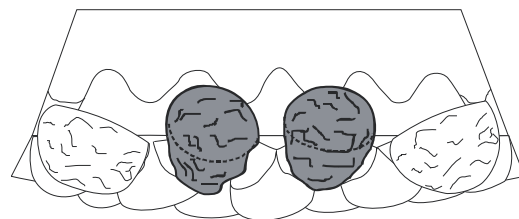
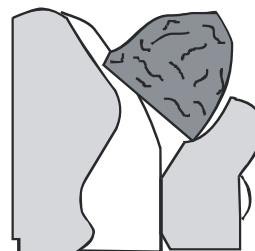
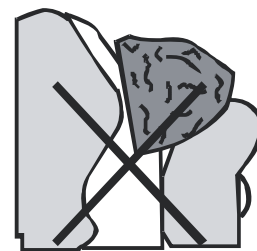

Figure 22
Figure 23
Figure 24
4. Place the other **two Large Rounded coals** in the middle of the matrix (see **Figure 22**) such that the flat face of the coals are bridging between the front matrix and the rear matrix (see **Figure 23**). **Figure 24** shows how **not** to lay the rounded coals.